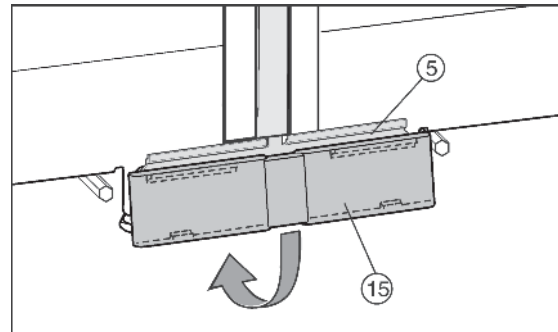

Fig. 29
- ▶ Position the lower cover *Fig. 29 (15)* from above onto the connecting panel *Fig. 29 (5)* and snap it down into place.